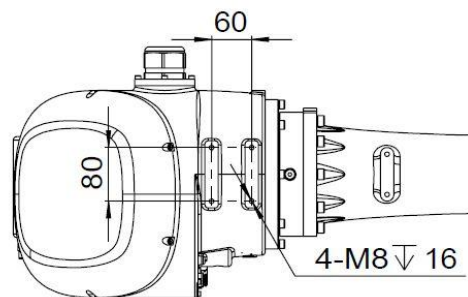

Figure 719 Schematic diagram of the load interface dimensions for the manipulator elbow
- The load center of gravity at the elbow must be located within the 80mm×60mm area marked by the installation screw in Figure 719.
The specifications and dimensions of the equipment mounting holes on the operator's elbow are shown in Figure 719.